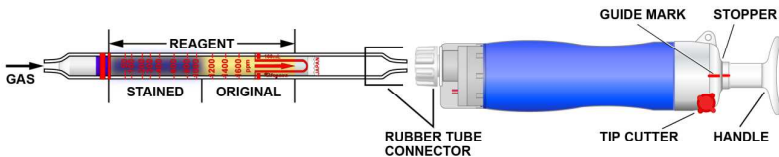

Fig.2
- ② Insert the detector tube into the aspirating pump securely as shown in Fig.2. (Arrow mark shall point to the pump.)
- ③ Align the guide marks on the shaft and stopper of the aspirating pump.
- ④ Pull the pump handle at a full stroke until it locks and wait for 1 minute or until the completion of sampling is confirmed with the flow indicator of the pump. (See descriptions about the flow indicator in the instruction manual of the pump.)
- ⑤ On completion of sampling, read the scale at the maximum point of the stained layer.